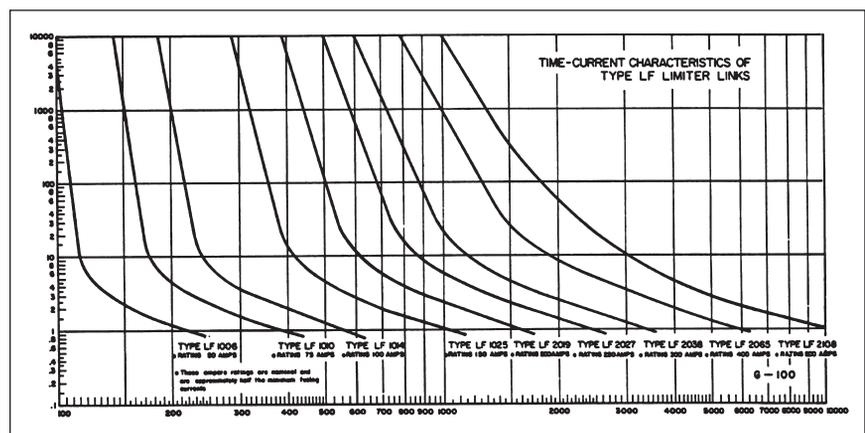

Figure 5: Current in Amperes Replaceable-link Limiters
Replaceable-link limiters, which provide faster time-current characteristics (Figure 5), are used in smaller networks, on the fringes of larger networks, at points where radial feeders leave a network, and for fusing service cables. As its name implies, this limiter is also distinctive in that its fusible link is replaceable.
1. Plot the damage characteristic curve f the cable insulation in the system. Curves for Class L620 (260° C or 500° F), appear in Figure 5.